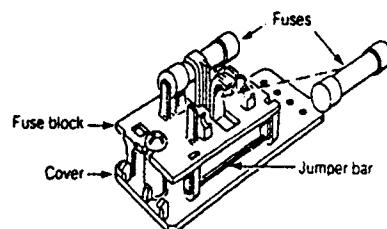

Figure 2.4 - European fuse
- 2.2.2 In **Europe** and other locations where the AC supply voltage is 220 - 240V/50Hz, there are two fuses - wone on Line and one on Neutral. Either of these fuses should be replaced only with a Type GDB, 5mm x 20mm, Quick-Acting (F), Low-Breaking Capacity, 250 Volt, .50 Amp fuse as per Figure 2.4 below.